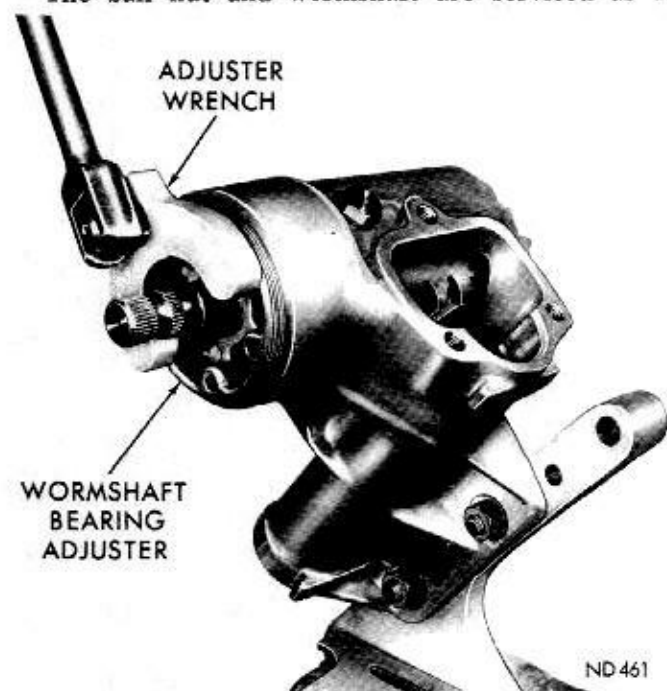

Fig. 5—Removing Worm Shaft Adjuster
(5) Remove lock nut from cross shaft adjusting screw and remove screw from cover by turning screw clockwise.
(6) Slide adjustment screw and shim out of slot in end of cross shaft.
(7) Loosen wormshaft bearing adjuster lock nut with a soft drift and remove the lock nut. Hold wormshaft from turning while unscrewing adjuster, using wrench from Tool Set C-3884 (Fig. 5).
(8) Slide worm shaft adjuster off shaft.